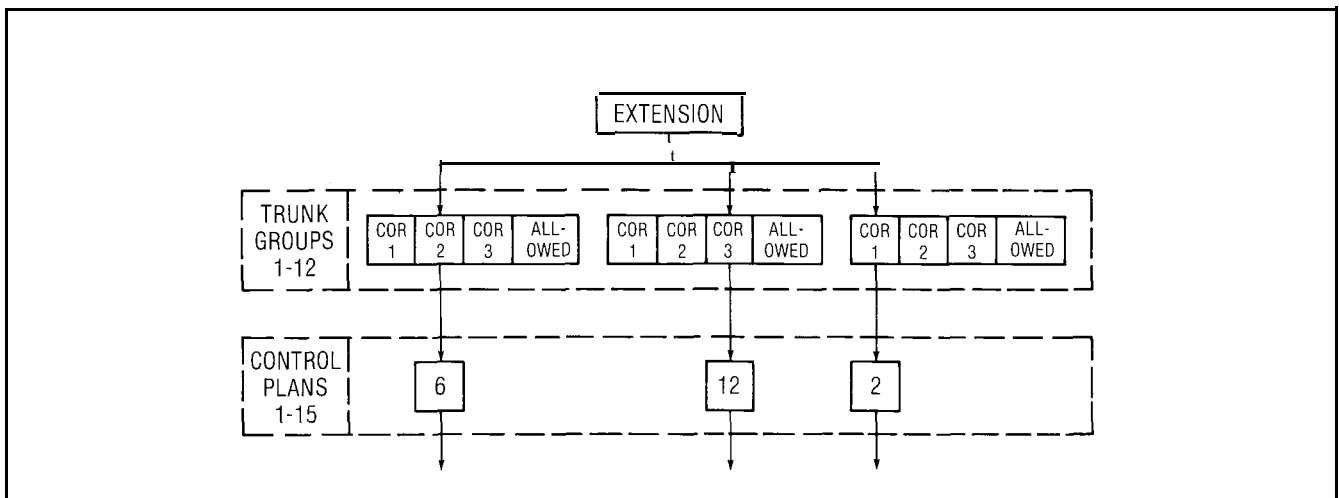

Fig. 3-1 Trunk Group Control Plans
3.02 Each Trunk Group may be assigned three different Control Plans, each one linked to one of the Trunk Groups CORs. When an extension accesses a Trunk Group the COR of the extension is matched to the Trunk Group COR and the assigned Control Plan is accessed. This allows different extensions to access different Control Plans when placing calls through the same Trunk Group (Fig. 3-1). It should be noted that a path of complete allowal exists in each Trunk Group. This occurs for access by fully toll allowed extensions or if a Trunk Group has no Control Plan assigned.